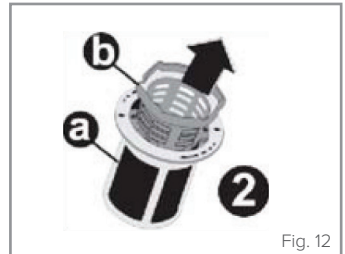

Fig. 12
3. Remove the coarse filter (b) from the microfilter (a) (Fig. 12).